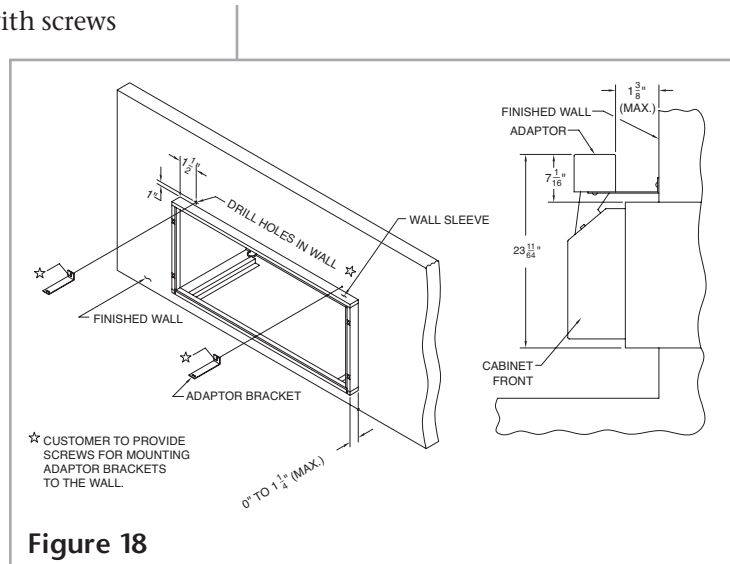

Figure 18
1. Mount adaptor brackets to the wall as illustrated. Installer to provide screws. (See **Figure 18**.)